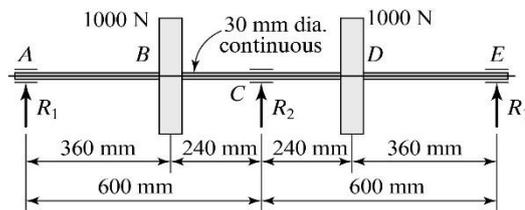

Fig. 11
12. (a) Find the reactions, and draw and dimension the bending moment diagram for the shaft of Fig. 11. All bearings are on immovable supports at the same elevation. Include the effect of the dead load of the shaft. For the shaft, $E = 206,900$ MPa; $\gamma = 7.682 \times 10^{-5}$ N/mm³.